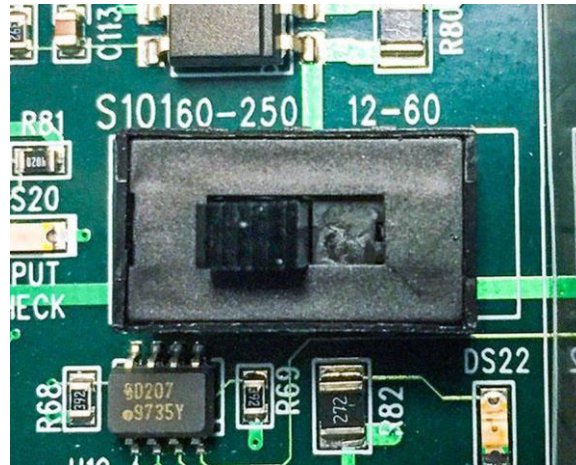

Figure 2-7. Input Check Voltage Switch (S101) in the Factory Default (60-250V) Position
- For a coil voltage of 12-60V coil, place the switch in the Right-position (Figure 2-7).